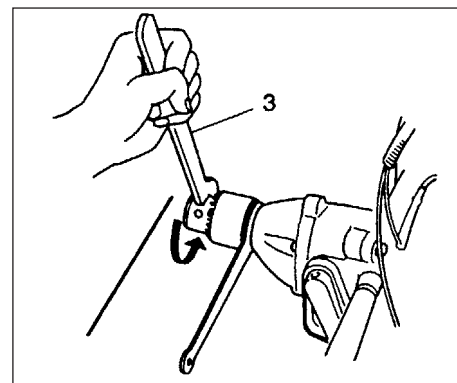

Fig. 2-7
- Note! use chuck mount wrench (3) in place of chuck handle and tighten or untighten manually instead of hitting. Do not hit the chuck mount wrench. (Fig. 2-7, 7B)